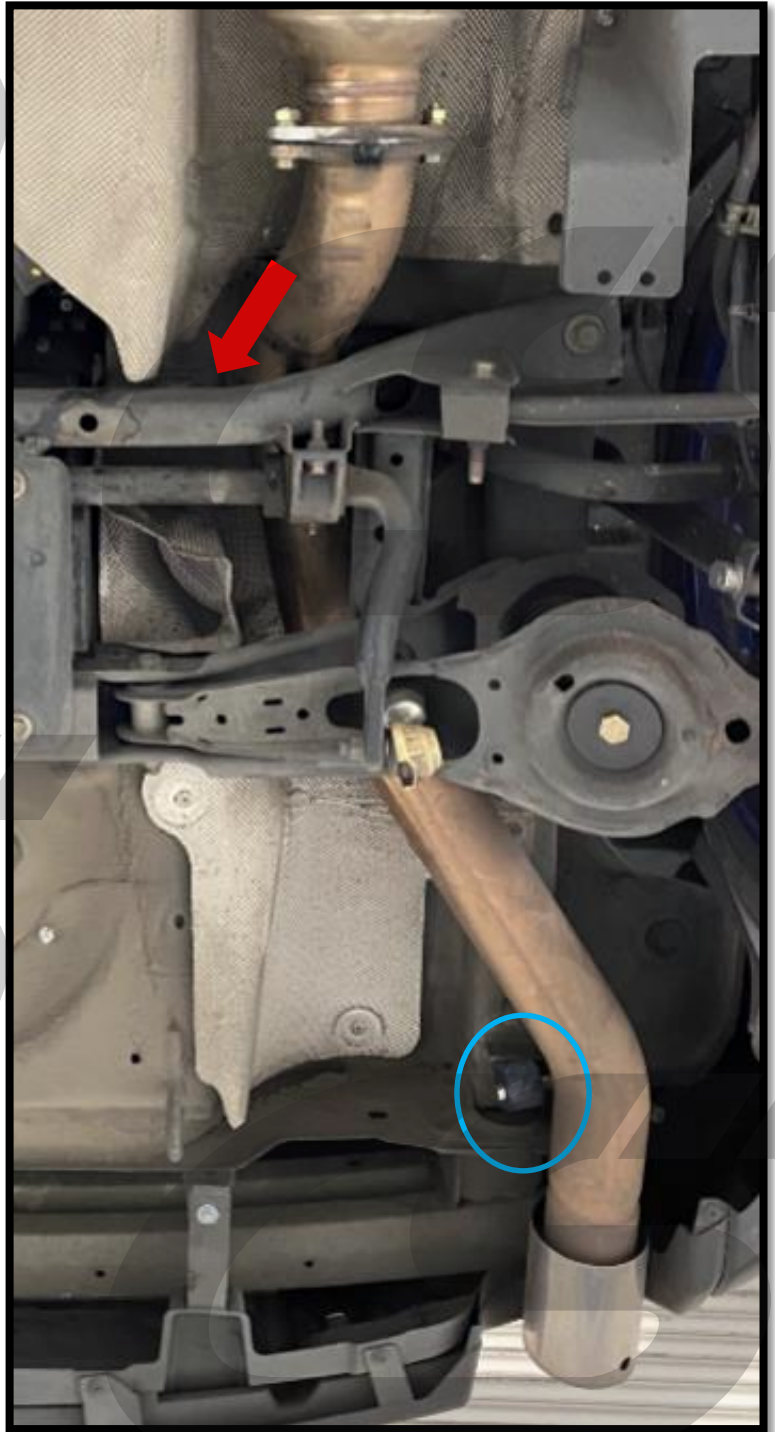

Figure 4b
- e) Remove the forward exhaust hanger using channel lock pliers or exhaust hanger pliers. Hanger is not visible but location is shown with red arrow in Figure 4b.
- f) Remove the rearward exhaust hanger using channel lock pliers or exhaust hanger pliers. The tip section can then be removed from the vehicle. Hanger shown circled in blue in Figure 4b.